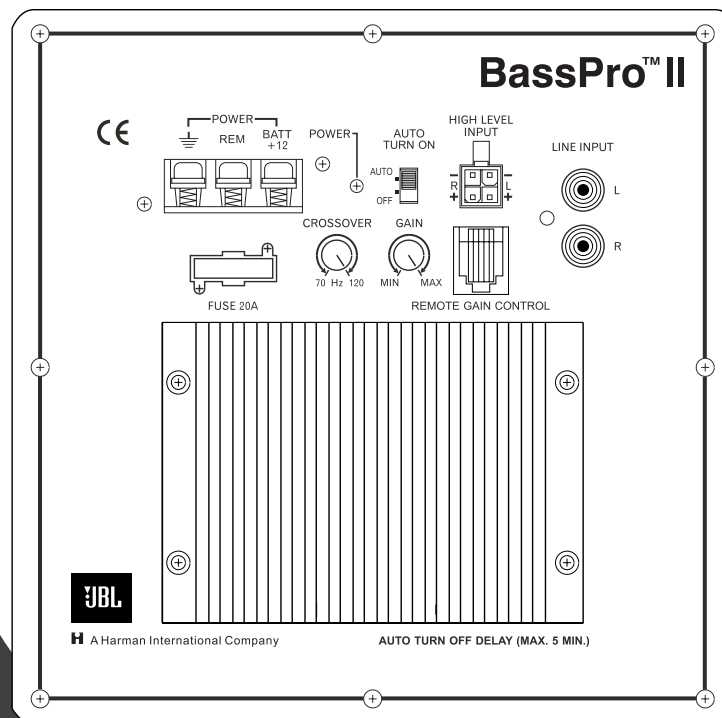

Figure 10.
BassPro II has controls and indicators that help simplify sonic integration with almost any vehicle's unique acoustic properties. These controls are located on the amplifier panel, as shown in **Figure 10**.
2. On BassPro II's amplifier panel, set the CROSSOVER to its maximum frequency of 120Hz, as shown in **Figure 10**.